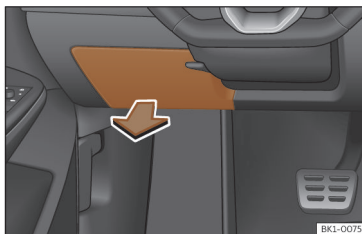

Fig. 179 On the dashboard on the driver side: lid of the fuse box.
- Grasp the back of the cover and remove it in the direction of the arrow >>> **Fig. 179.**